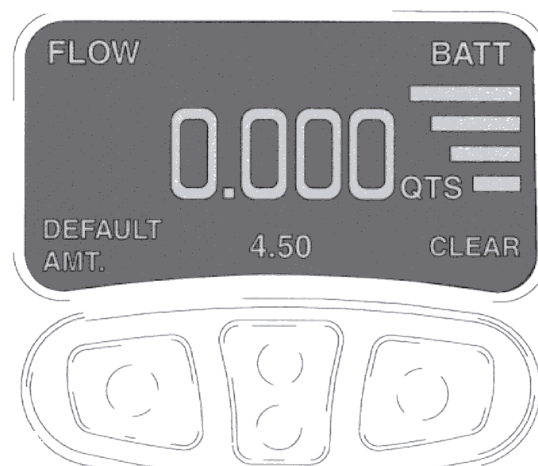

FIG. 11
3. Press the right arrow down button under the word CLEAR to zero out the preset amount. The center arrow buttons can then be used to adjust the amount of fluid to be dispensed. See FIG. 11.